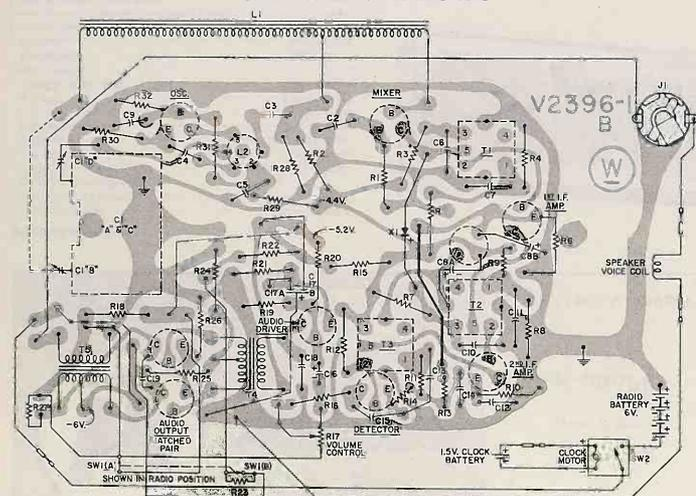

Figure 3 - Bottom view of printed circuit board with components shown symbolically.
4. Remove the clock control knobs. Remove the clock from the cabinet front. To replace the clock use the reverse of this procedure (solder wires to clock terminals as shown in figure 3).